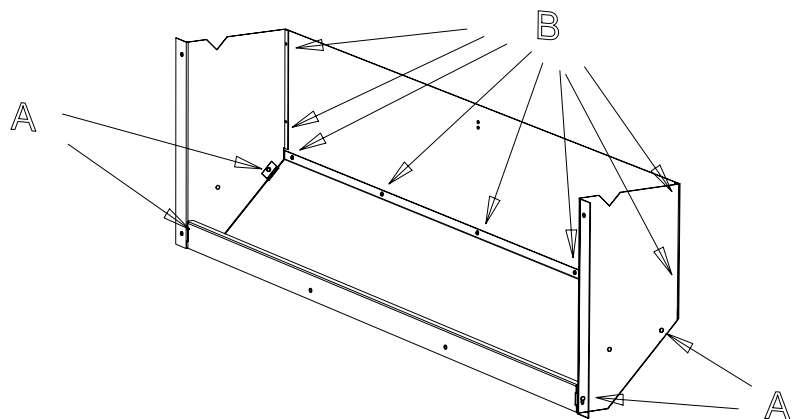

Figure 1
1. Assemble the side panels to the lower panel using 1/4-20 x 1/2" long bolts and locknuts as noted by "A" in Figure 1.
look like Figure 1 at right.